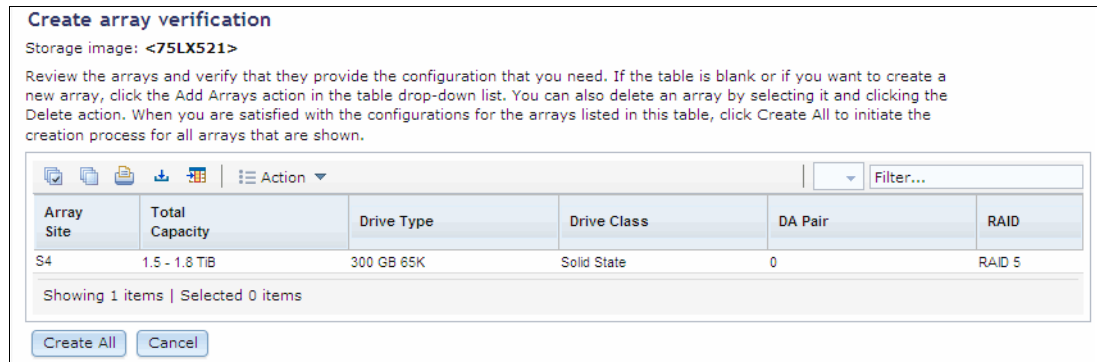

Figure 13-22 Create array verification window
- The Create array verification window is displayed (Figure 13-22). It lists all array sites chosen for the new arrays we want to create. At this stage, you can still change your configuration by deleting the array sites from the lists and adding new array sites if required. Click **Create All** after you decide to continue with the proposed configuration.